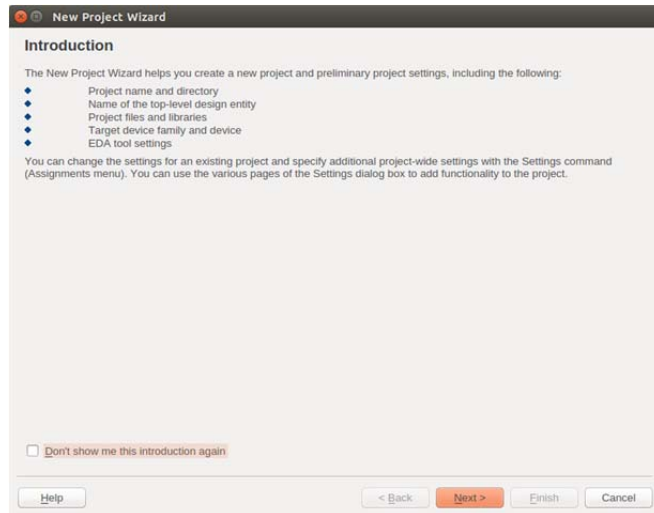
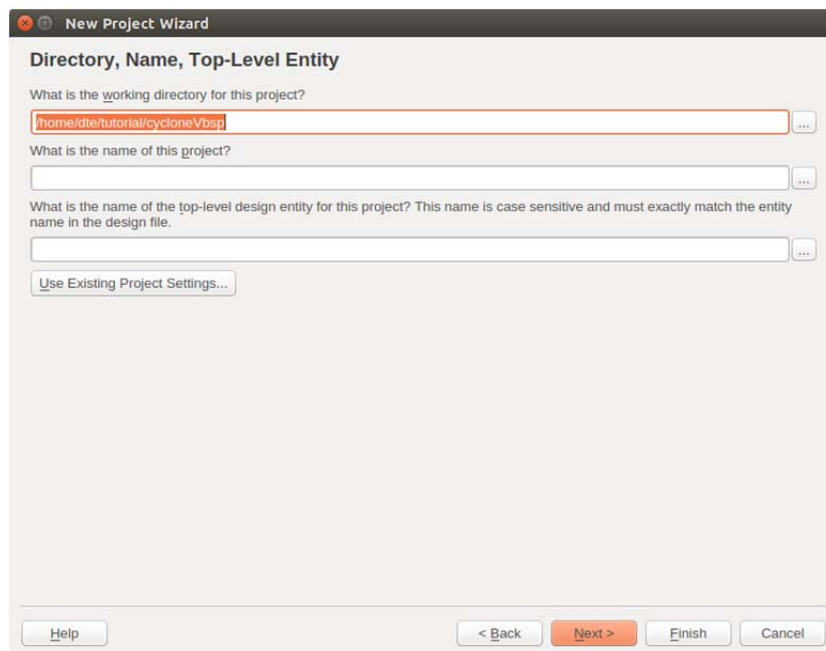
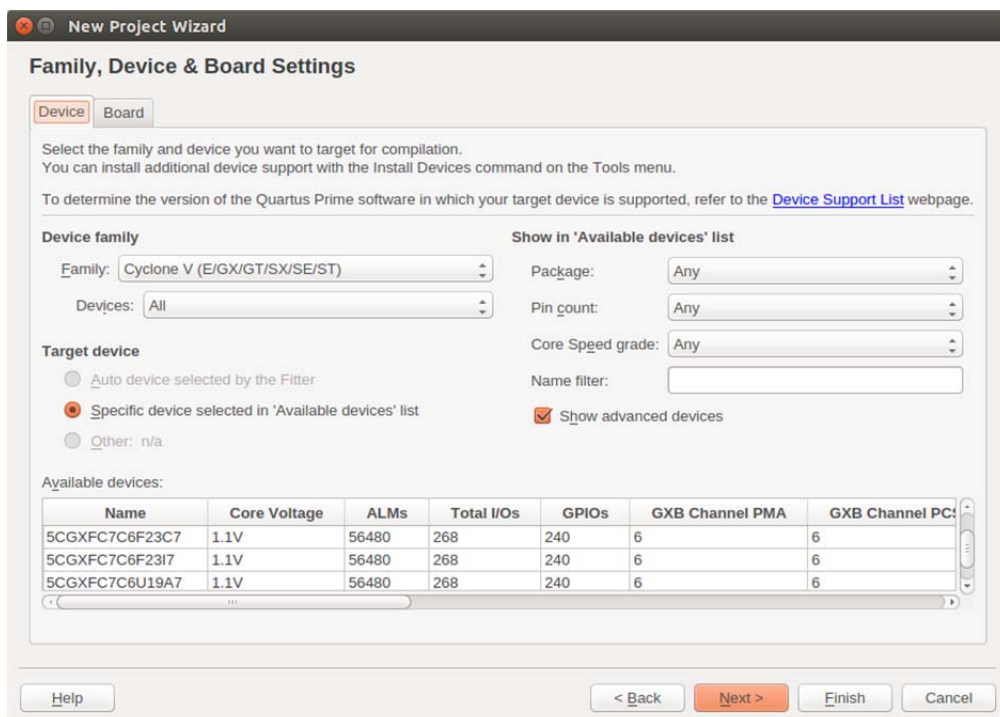
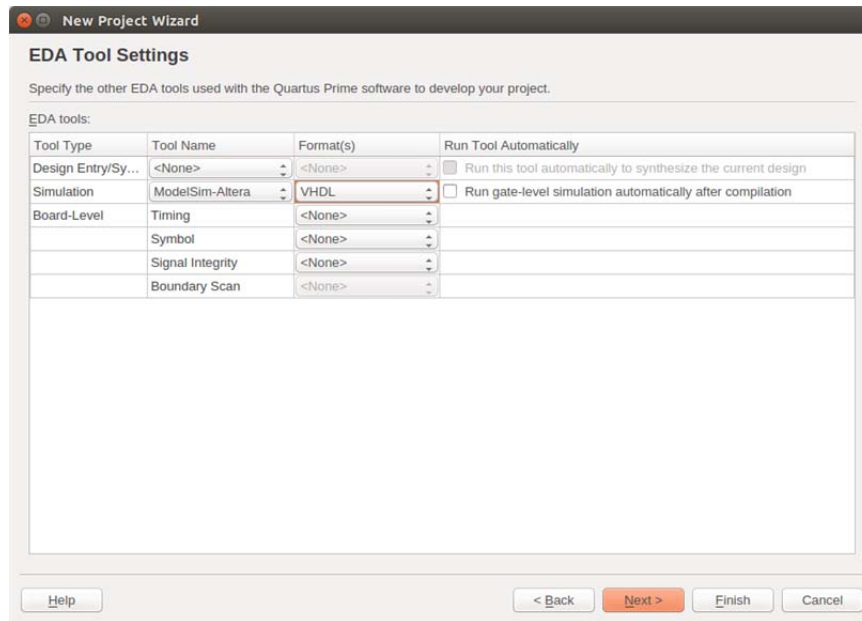

Fig. 14: Creating a New Project using the wizard.
Fig. 15: Selecting the project location, name and the top level entity.
Fig. 17: Selecting the Device.
Fig. 18: Selecting VHDL for ModelSim Tool.
1. Create a new *Quartus Prime* project using “File->New Project Wizard. You will see a window similar to Fig. 14. Pressing Next button you will be prompted to select the project name and destination, as all other settings (Fig. 15). For this tutorial, we will call our project “soc_sytem”, the top level file is the “soc_system_top” and will store it in “cycloneVbsp” folder. In the “Project Type window” select an “Empty Project option” as shown in Fig. 15. Do not “Add Files” in this step and select a Cyclone V SoC 5CSEMA5F31C6 device (Fig. 17). Finally in the “EDA Tools Settings” define the format file for ModelSim-Altera as VHDL (Fig. 18). Press Finish to create the project.